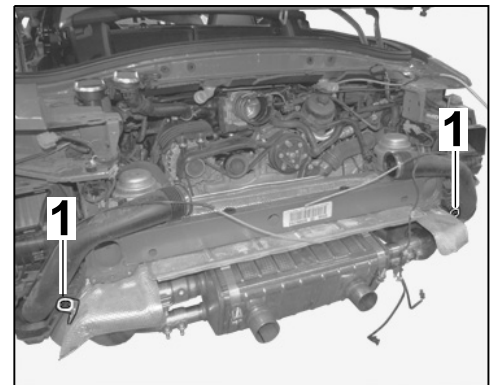

Figure 35
- 8.6.1 Unscrew screws ⇒ *Figure 35 -1-* on the heat shield.